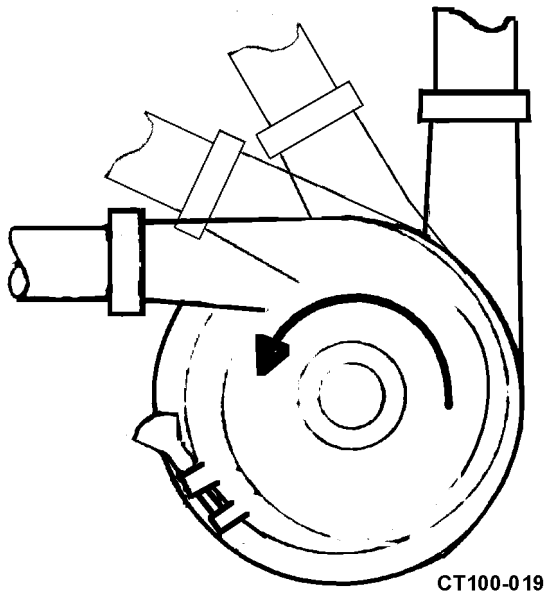

Figure 6 - Recommended Discharge Positions
- Check pump rotation following electrical installation. Correct rotation is counterclockwise when facing pump inlet connection. See Figure 6.